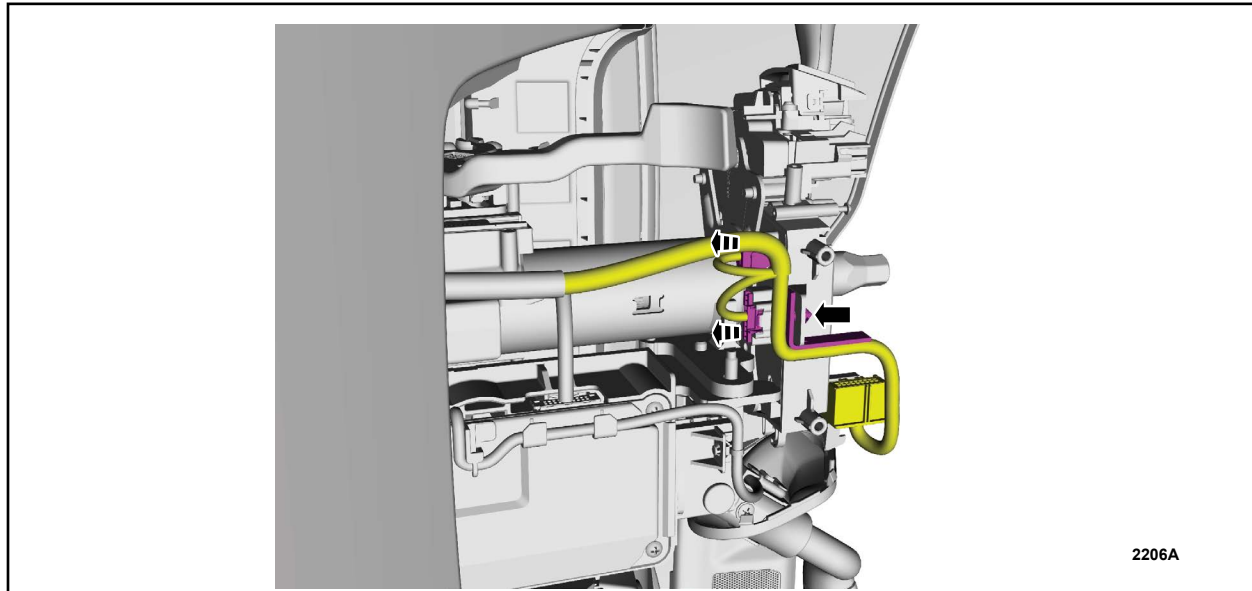

FIGURE 6
6. Disconnect the SCCM electrical connectors, unclip the pin type retainer and position the harness aside. See Figure 6.